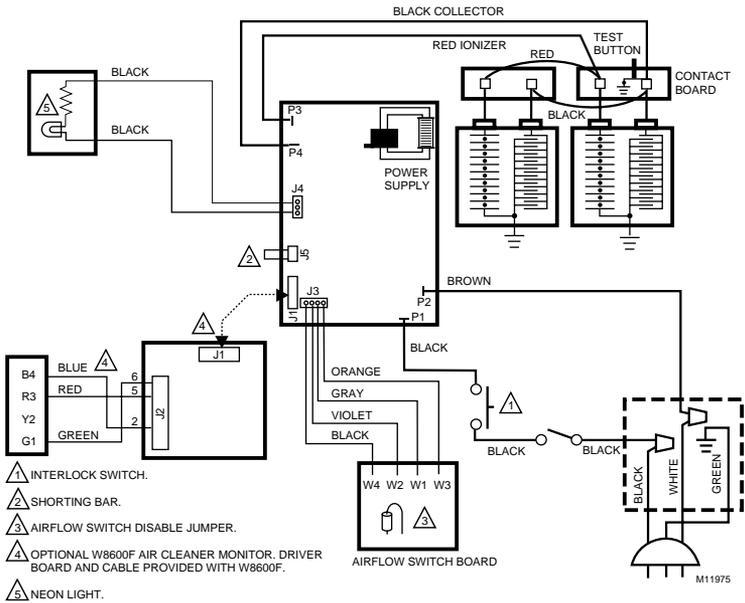

Fig. 9. Internal schematic for 120V F50F Models with Optional W8600F.
- Plug the F50F directly into the correct voltage and frequency outlet. See Figs. 9 and 10 for internal schematics. The F50F will operate properly at any fan speed on a multispeed or modulated speed system wired with conduit or plugged in.